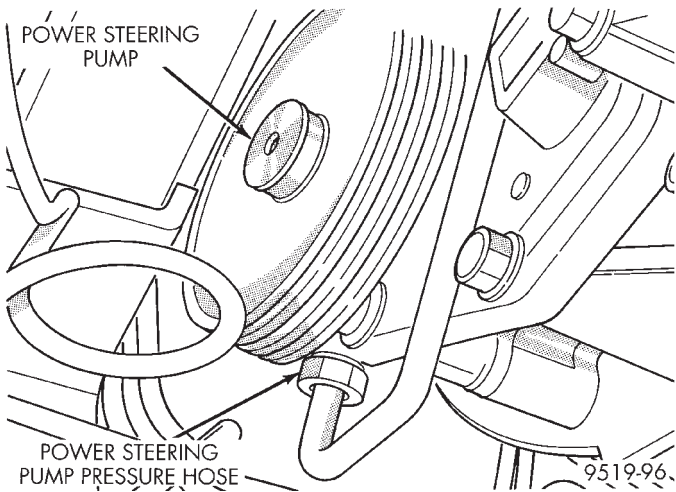
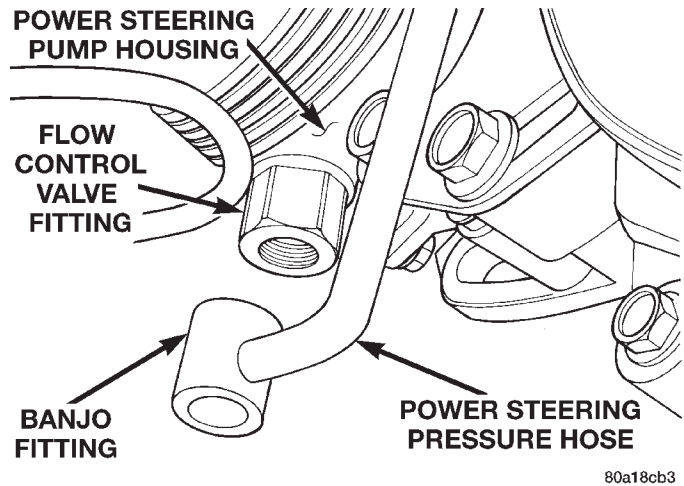
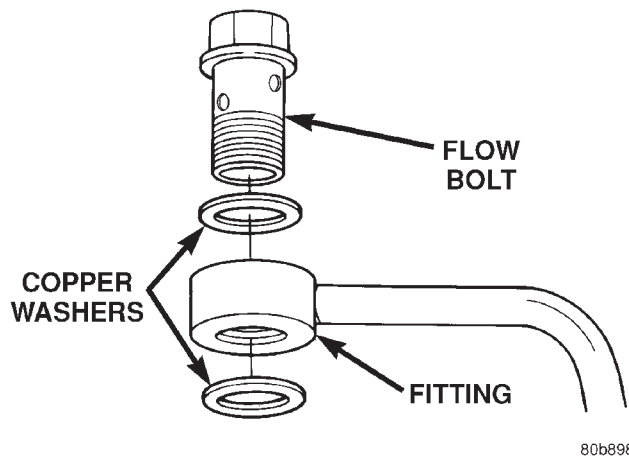

Fig. 14 Power Steering Pump Pressure Fitting W/O Variable Assist Power Steering
Fig. 15 Power Steering Pump Pressure Fitting With Variable Assist Power Steering
Fig. 16 Pressure Fitting And Washers
(7) Remove the power steering pressure hose from the pressure fitting on the power steering pump (Fig. 14) (Fig. 15). On vehicles with speed-sensitive variable assist power steering, be careful not to lose the copper sealing washers on each side of the fitting (Fig. 16).
(3) On vehicles without speed-sensitive variable-assist steering install new O-rings on the power steering pressure hose fittings. Lubricate O-rings using fresh clean power steering fluid.
(4) On vehicles with speed-sensitive variable-assist steering, install a copper washer on each side of the fitting, then place the flow bolt through the fitting (Fig. 16).
(5) Attach the power steering pressure hose to outlet fitting on the power steering pump. **Do not tighten or torque pressure fitting at this time.**
(8) Raise the front suspension crossmember and steering gear back up into the vehicle. Refer to the steering gear service procedure in this group of the service manual for the required procedure to install the front suspension crossmember.
(9) Install power steering fluid pressure hose on flow control valve fitting (Fig. 14) or (Fig. 15). Tighten the tube nut (Fig. 14) to a torque of 31 N·m (275 in. lbs.). Tighten the banjo fitting flow bolt (Fig. 16) to a torque of 47 N·m (35 ft. lbs.).